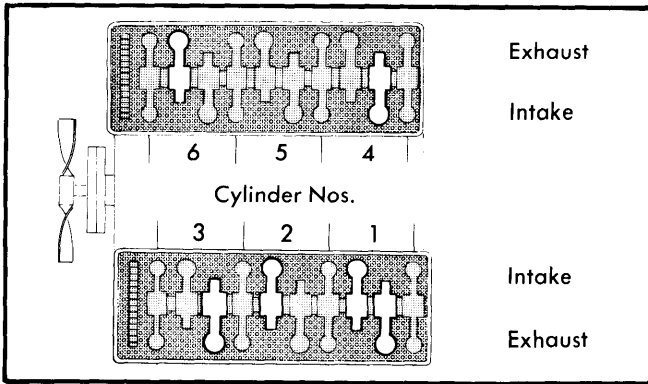

Fig. 6 Valve Clearance Adjustment Sequence
valves on cylinders 1, 2, and 4; exhaust valves on cylinders 1, 3, and 6 (White valves in Fig. 6).
① — Specifications are for cold engine.
2) Rotate crankshaft one full turn so marking is again opposite 0° mark. Rocker arms for No. 1 cylinder will now rock. Check and adjust the following cylinders for clearance: Intake valves on cylinders 3, 5, and 6; exhaust valves on cylinders 2, 4, and 5 (Grey valves in Fig. 6).